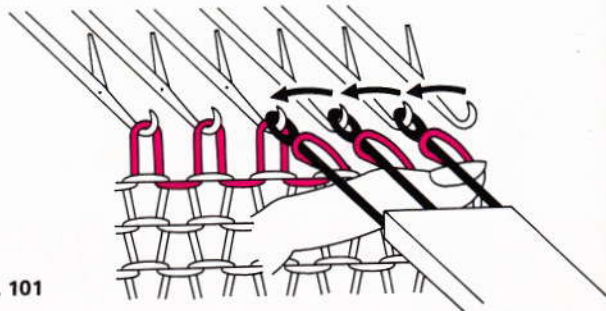

Fig. 101
- Transfer these 3 stitches one needle nearer the centre (fig. 101).